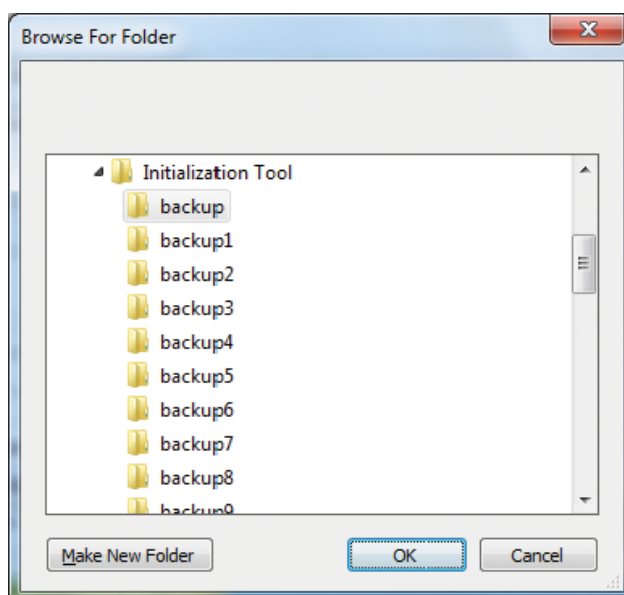

Fig.448 [Browse For Folder] screen
- 3 Specify a folder in which to download. (Fig.448)**